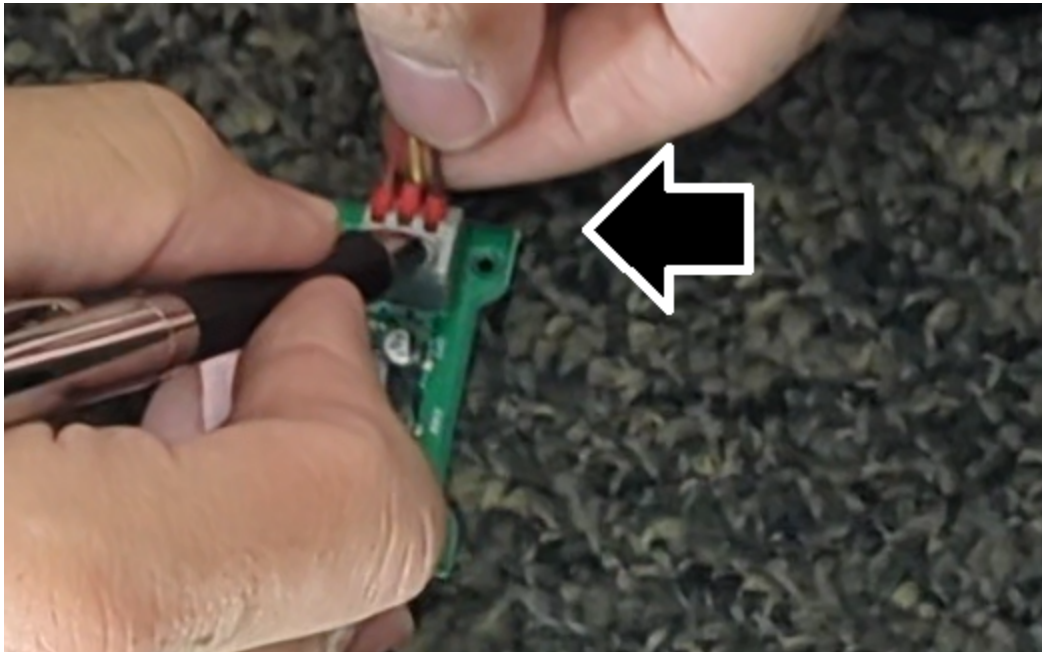

Figure 4
10. If your unit is a **BASE** or **MAX** model, disconnect the water pump wires from the speed board instead of the connector terminal. See Figure 4.